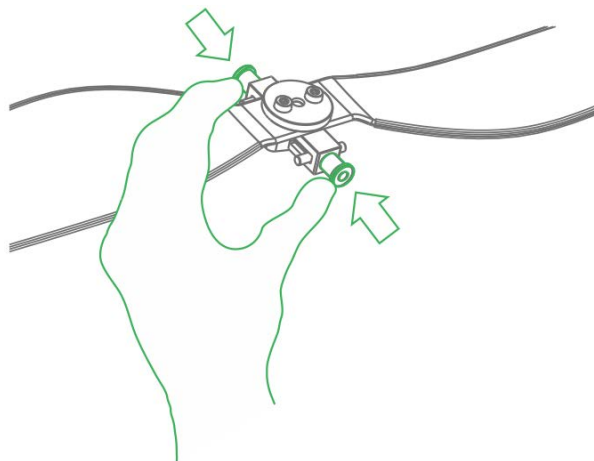

Figure 3-31
Step 1 Press the spring buckle on both sides of the propeller center, as shown in Figure 3-31.